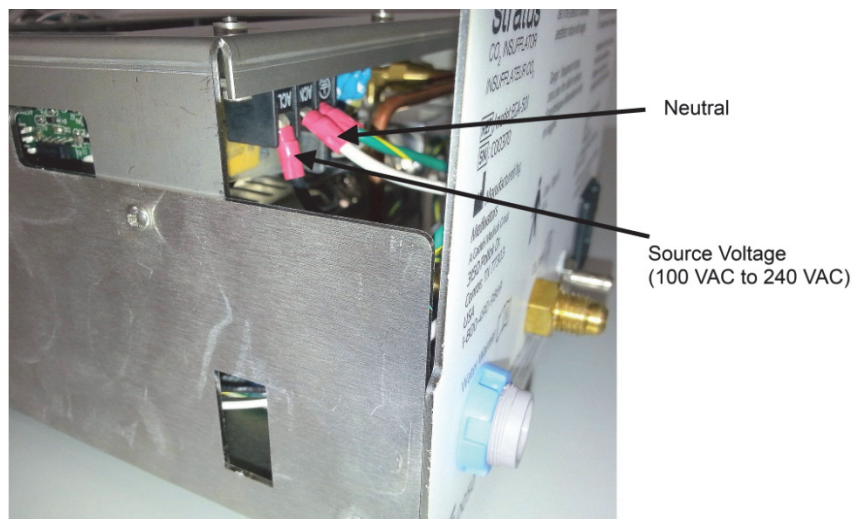

Figure 1
- With the unit plugged in and the Power Switch depressed to the ON position, verify that you are reading source voltage (100 VAC to 230 VAC) between the neutral (ACN) and source voltage connection (ACL) on the power supply. See figure 1.